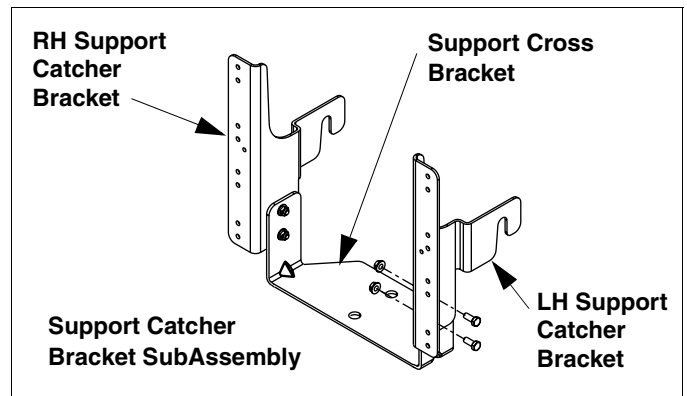

Figure 4
- Place the Support Cross Bracket (Ref. No.1) between the LH Support Catcher Bracket (Ref. No. 2) and the RH Support Catcher Bracket (Ref. No. 3). Position the Support Cross Bracket as shown in Figure 4